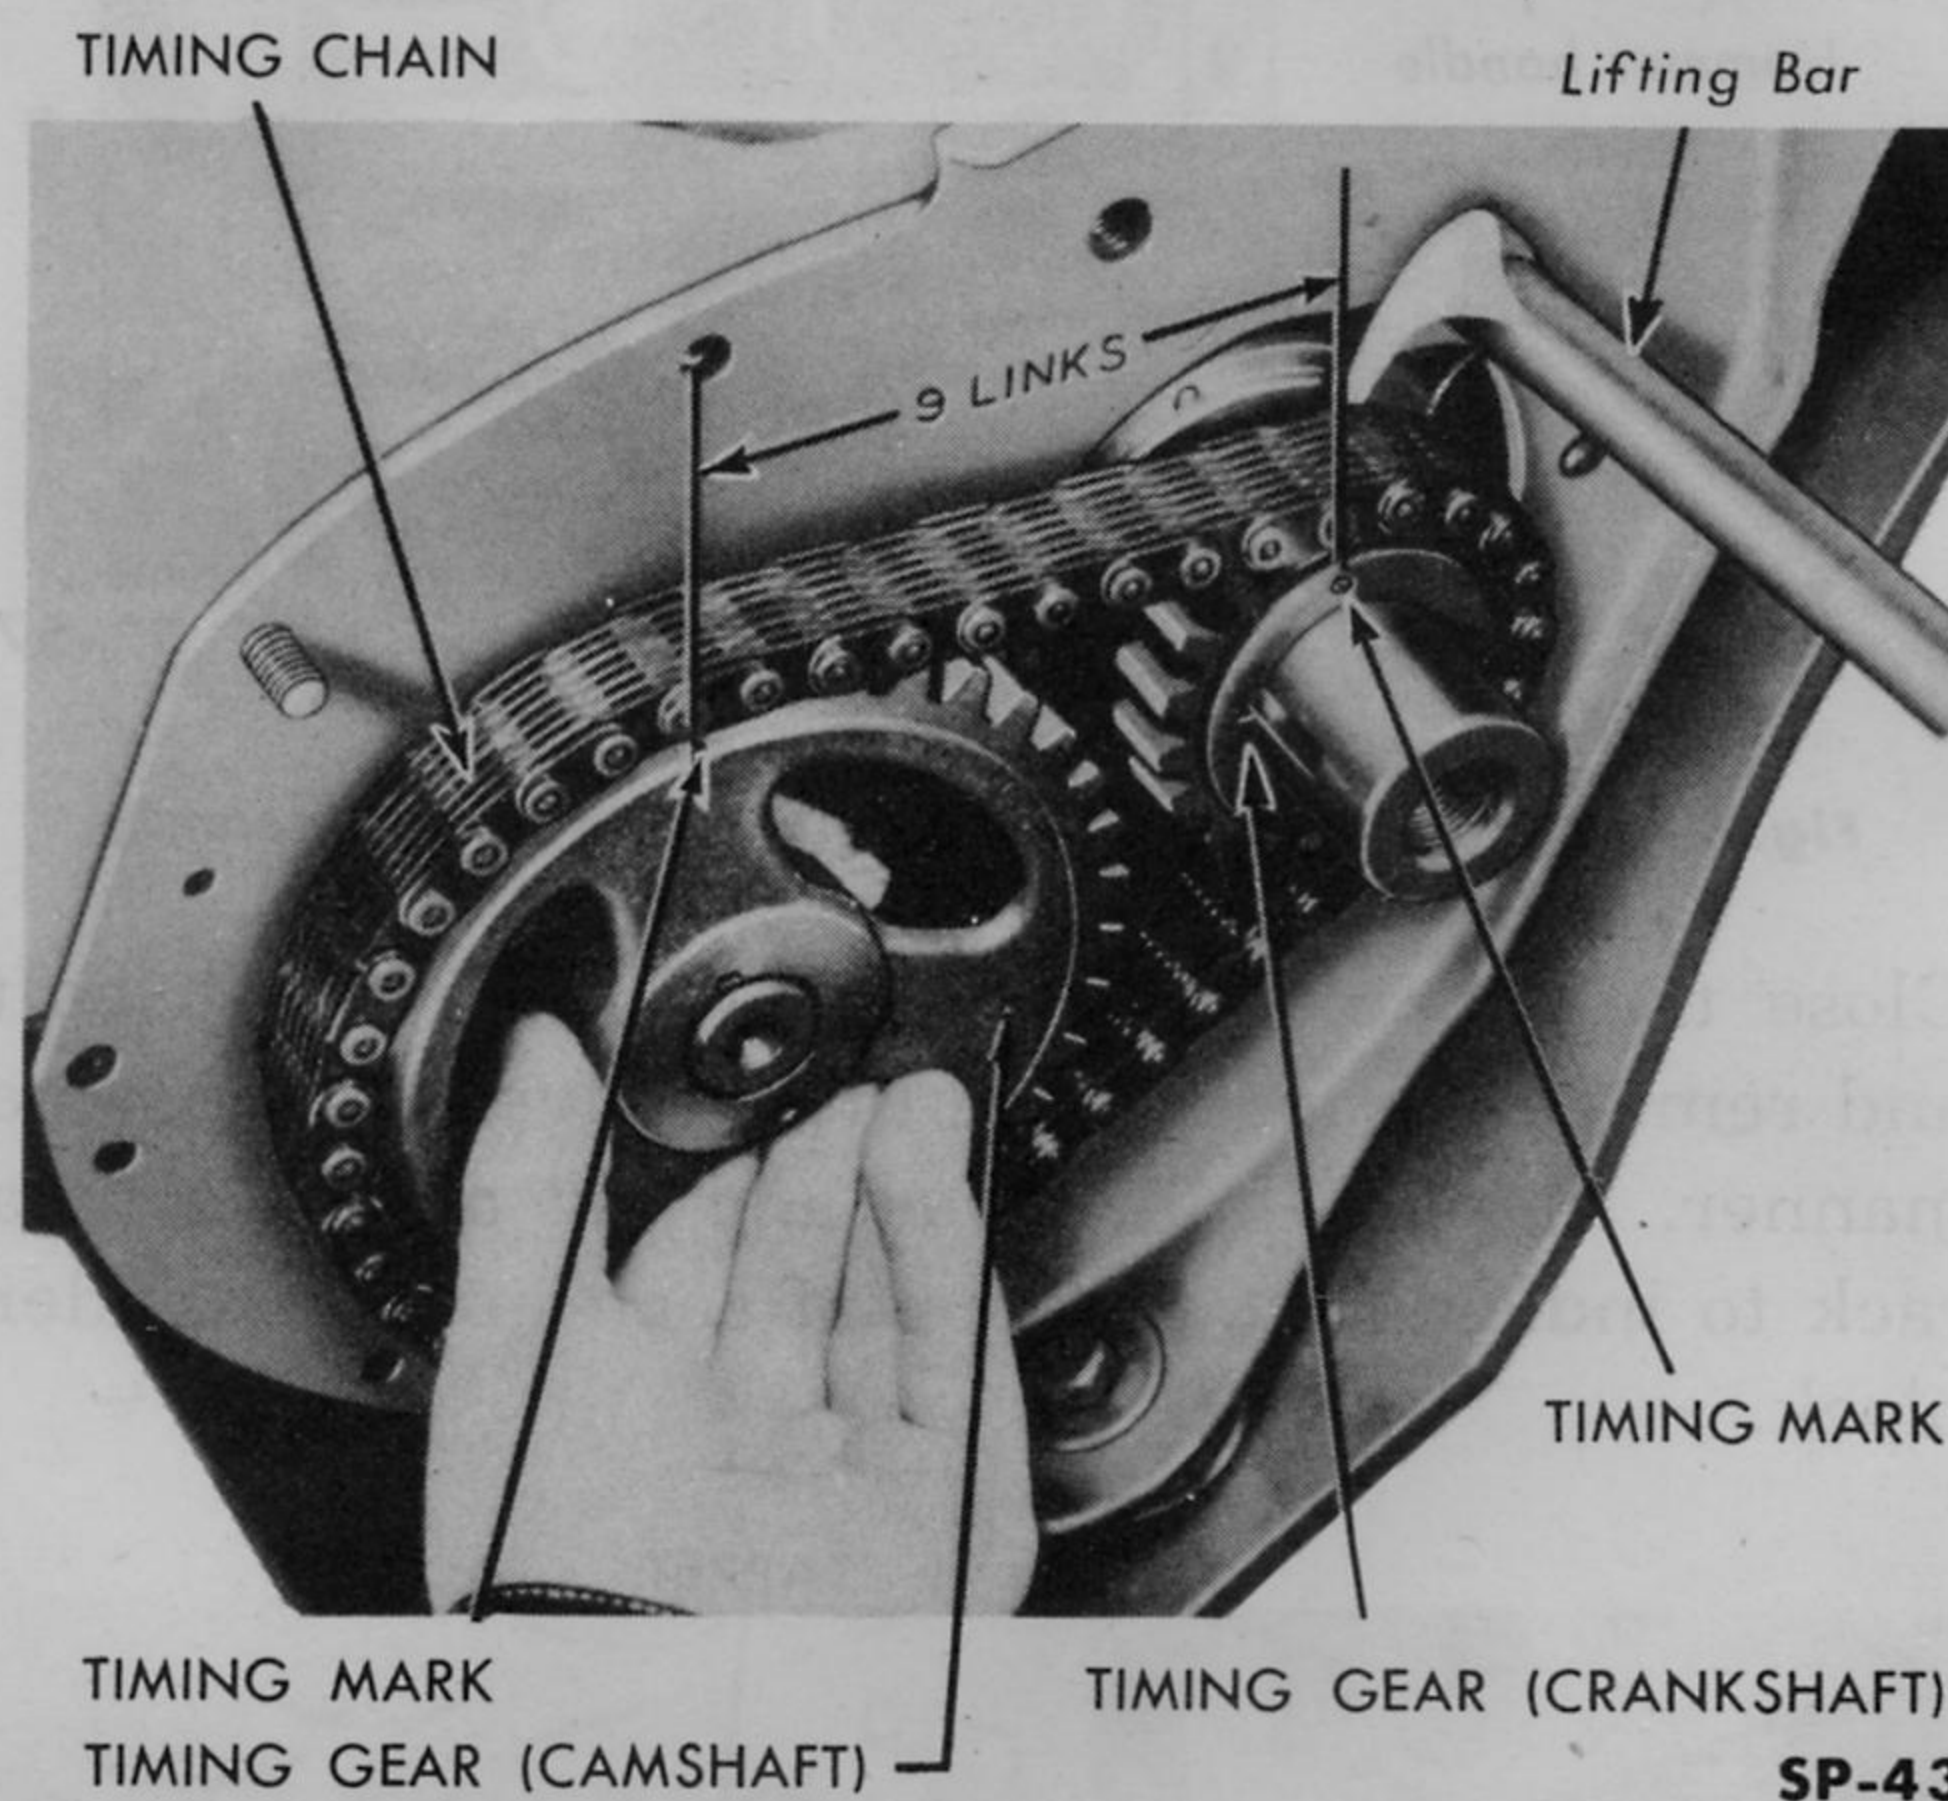

Fig. 27—Removing Timing Chain and Gears
o. REMOVE TIMING GEARS AND CHAIN. The timing chain and gears are removed from the engine as a unit. With a small chisel and hammer, straighten the lock plate at the camshaft gear retaining nut. Remove the nut and lock plate. With a hooked bar in position, pry alternately on the crankshaft gear and behind the spokes of the camshaft gear until both gears and timing chain are removed (Fig. 27). Remove the Woodruff keys.